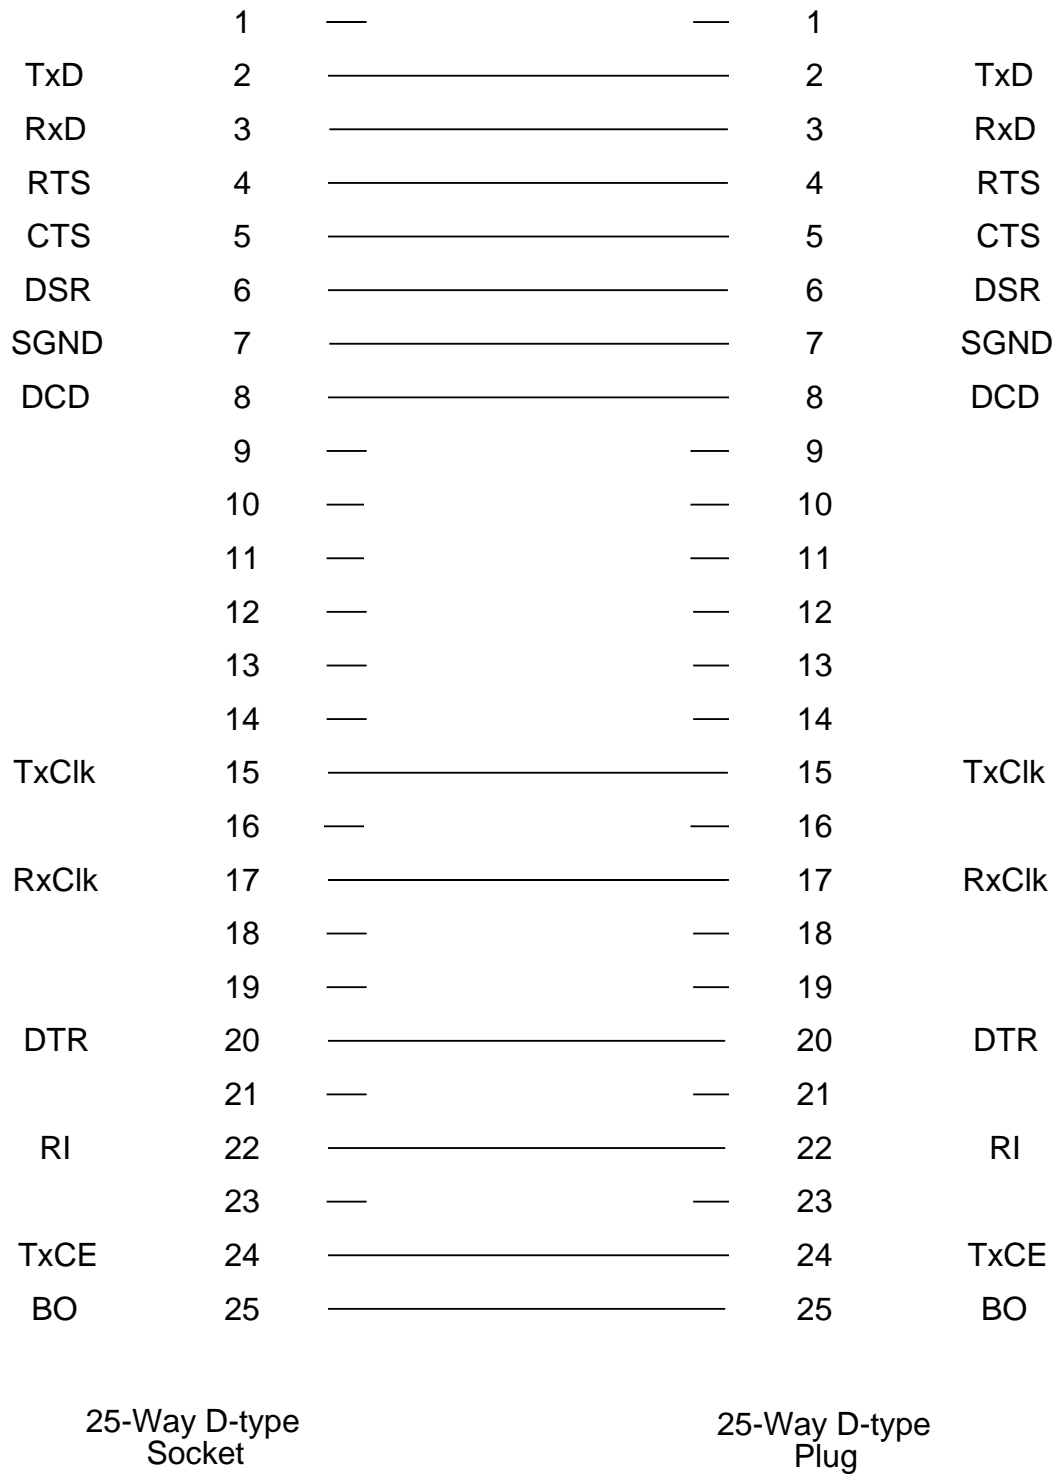

Figure B-7 V.24 Composite Cable (DCE)
- (5) RJ8 Application Card to V.24 DCE use cable X890-403111, Figure B-7.